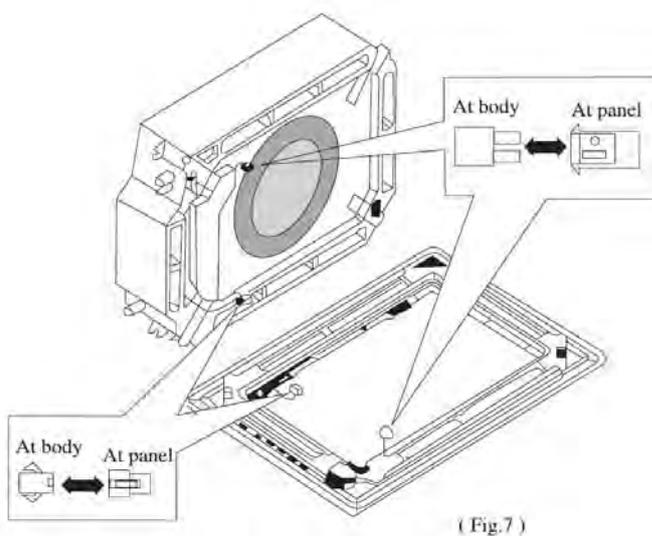

**Fig.6**
2. If gap is still left between the ceiling and the panel after screwing the screws, readjust the height of the indoor unit body (Refer to Fig.6)